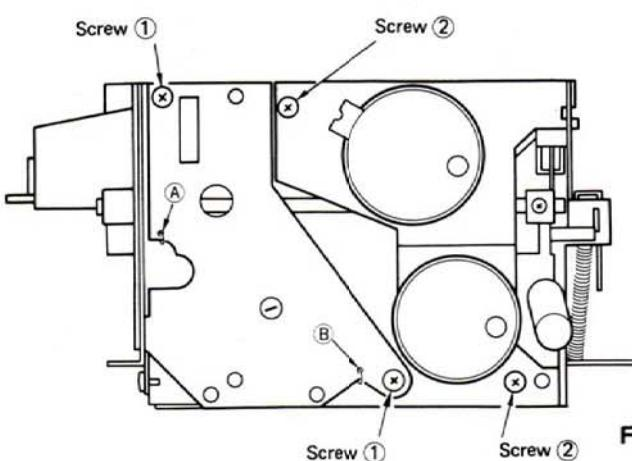

Fig. 7
- 1) Remove the Inter connect P.C. Board and play solenoid as described in procedure 2 above, and then take off 2 springs at points A and B shown in Fig. 7.
2) To remove the flywheel, remove 2 screws ① shown in Fig. 7.
- 2) To remove the motor holder, remove the 2 screws ② shown in Fig. 7.